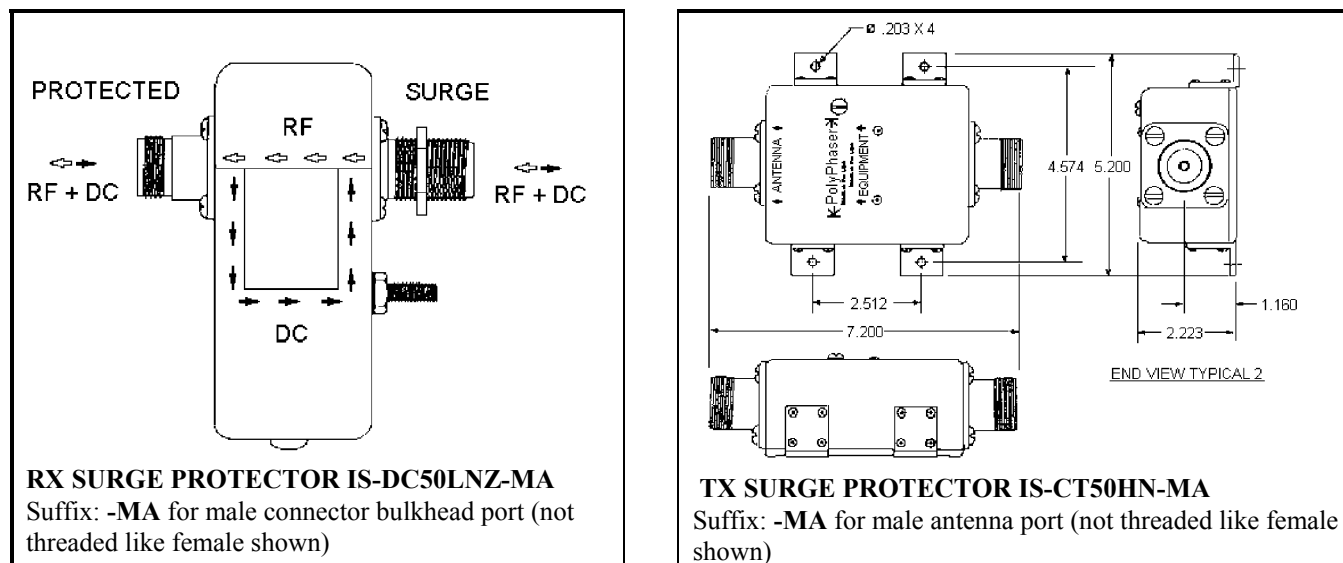
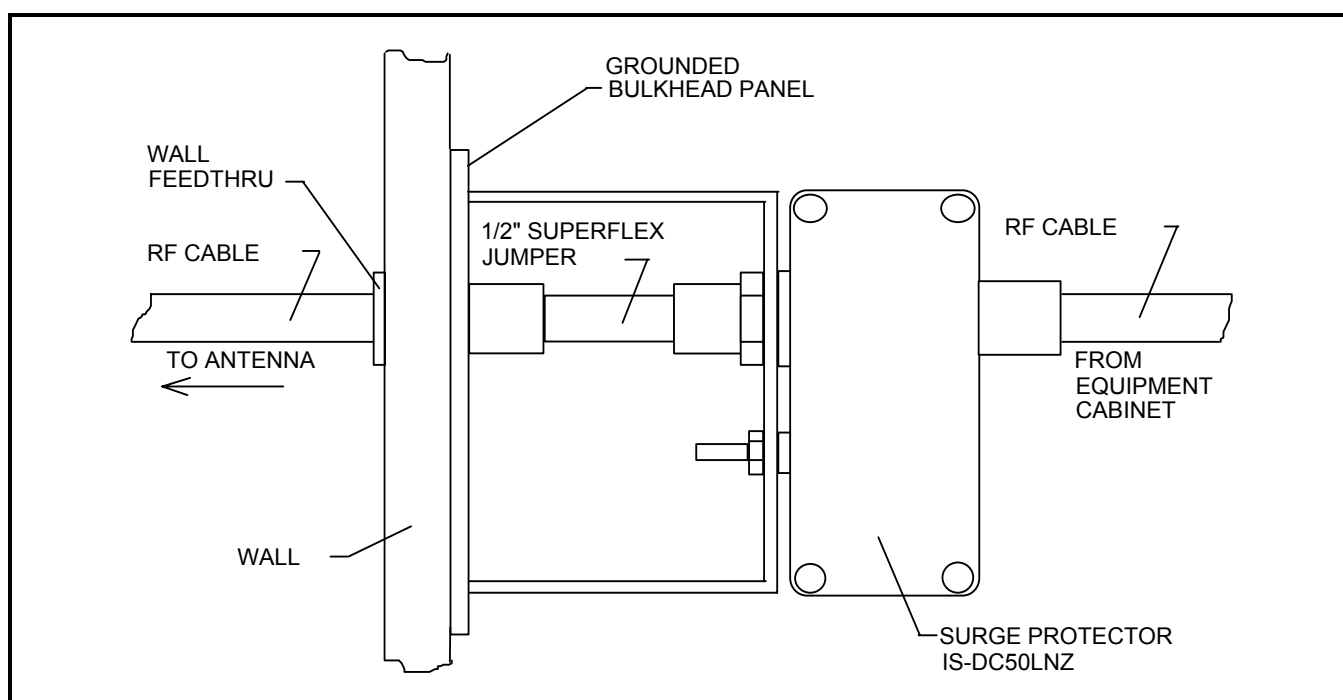

Figure 6-1: Surge Protectors
Figure 6-2: Typical Mounting of the RX Surge Protectors
3. Mount the Receive Surge Protector (IS-DC50LNZ-MA), if not previously installed, to the grounded bulkhead panel, located at the wall feed thru where the antenna system enters the building. Other installers (refer to Surge Protector Diagrams in Figure 6-1 and Figure 6-2) should have already installed this panel.
4. Mount the transmit surge protector (IS-CT50LNZ-MA) to the grounded bulkhead panel, located at the wall feed through where the antenna system enters the building. Installers should have already installed this panel. (Refer to Surge Protector Diagrams in Figure 6-1 and Figure 6-2)